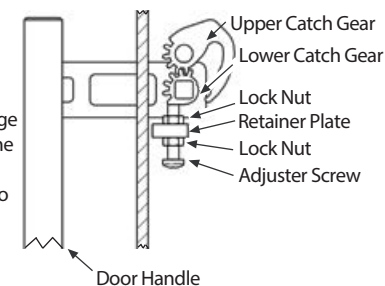

Figure 11-3
- Remove the door hinge and fasteners as shown in figure 11-3.
- Once the desired adjustment position has been achieved, the lock nut should be re-tightened against the retaining plate. Refer to figure 11.3.